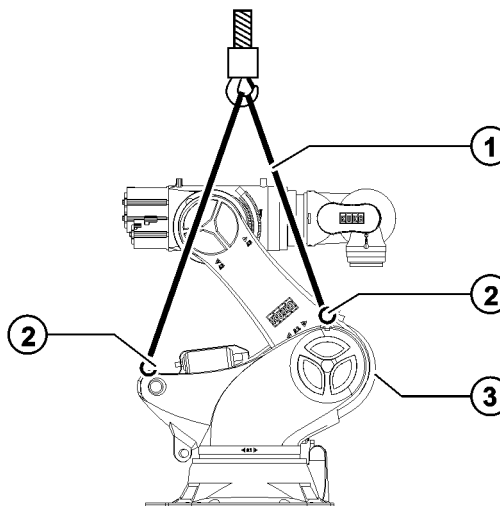

Fig. 7-5: Lifting tackle
The robot can also be transported using lifting tackle (>>> Fig. 7-5) (1). The robot must be in the transport position. The lifting tackle is attached to 3 eye-bolts (2) that are permanently screwed into the rotating column (3). All ropes must be long enough and must be routed in such a way that the robot is not damaged. Installed tools and pieces of equipment can cause undesirable shifts in the center of gravity.